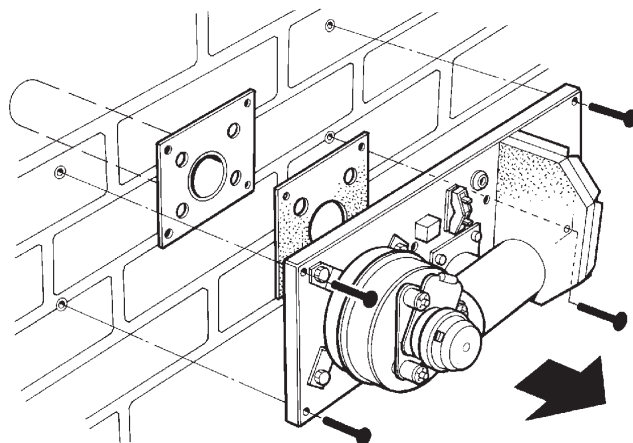

FIG. 17
5. Remove card template and place flue terminal assembly onto the hole. (See Fig. 17).